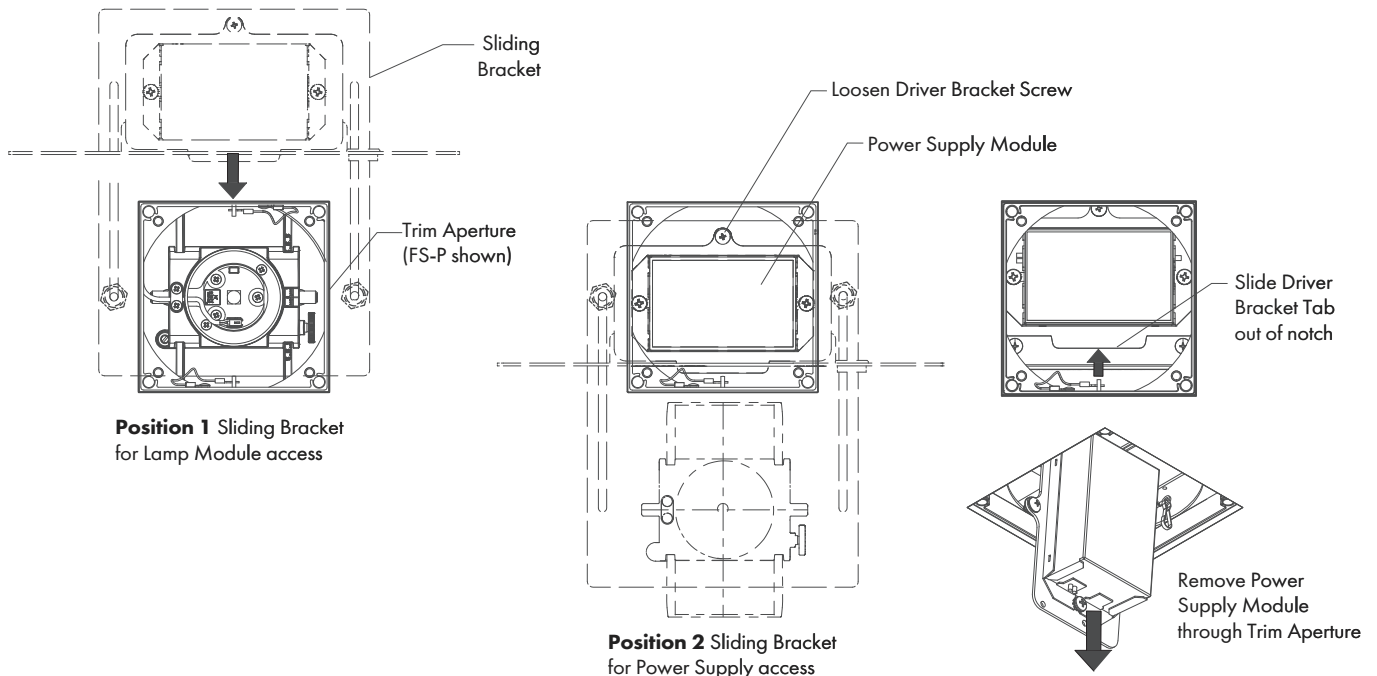

FIG 7.2 Sliding Bracket Positioning and Remove/Replace Power Supply Module
STEP 3 Move Sliding Bracket along slots to expose Power Supply Module in the aperture (Position 2) – **FIG 7.2**.
STEP 4 Loosen Driver Bracket Screw, remove Power Supply Module through aperture, and disconnect all wire connections – **FIG 7.2**.